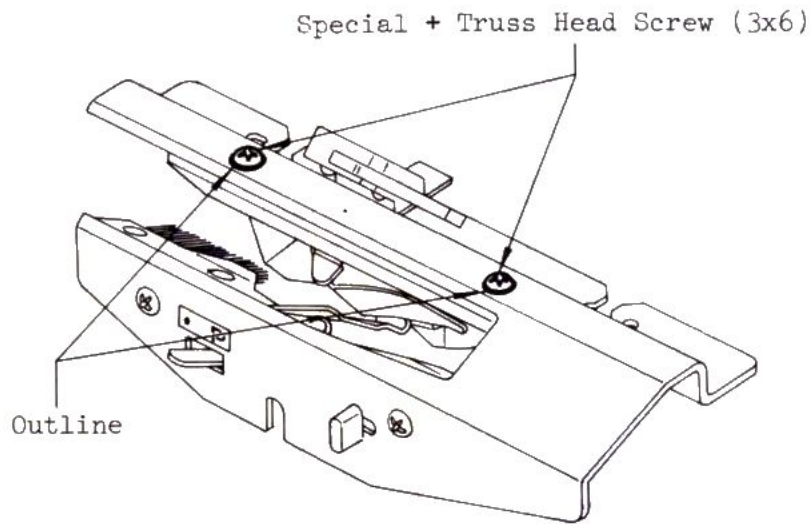

Fig. 30
1. As indicated in Fig. 30 below, trace the outline of the two Special + Truss Head Screws (3x6) situated on the top of the Arm.